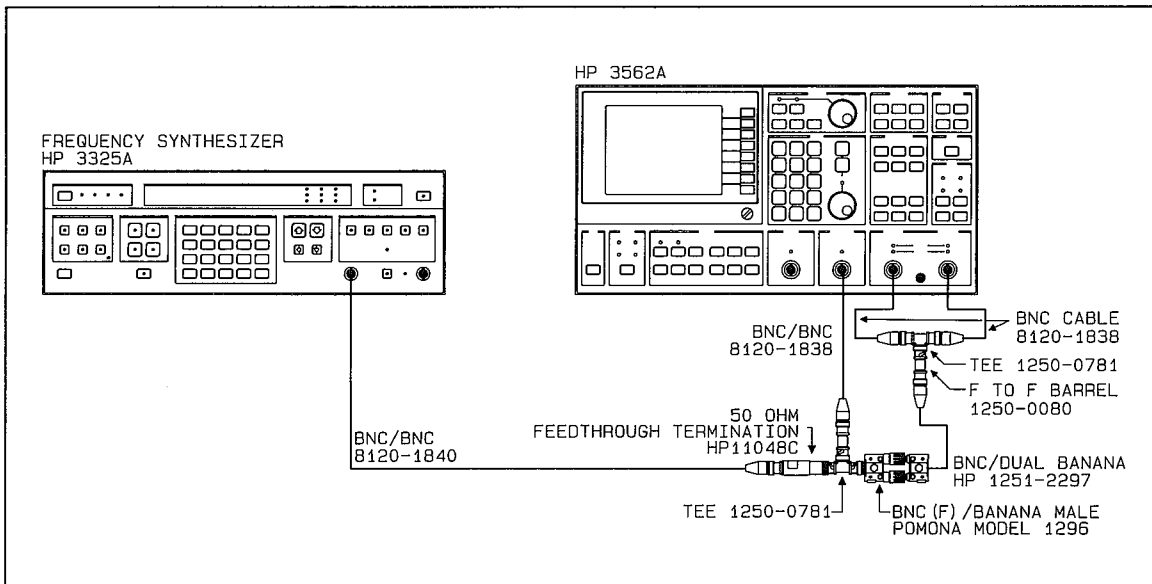

Figure 2-18 Single Channel Phase Accuracy Test Setup
- A. Connect the test instruments as shown in figure 2-18. Refer to "Initial Equipment Setup", paragraph 2-20, for unspecified parameters.